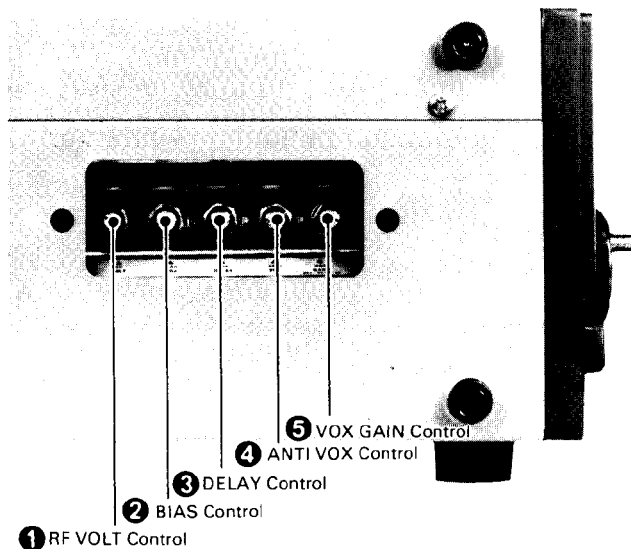

Fig. 6 Side Panel Controls
■ **RF VOLT CONTROL** (1 on Figure 6)
■ **BIAS CONTROL** (2 on Figure 6)
■ **DELAY CONTROL** (3 on Figure 6)
■ **ANTI VOX CONTROL** (4 on Figure 6)
■ **VOX GAIN CONTROL** (5 on Figure 6)